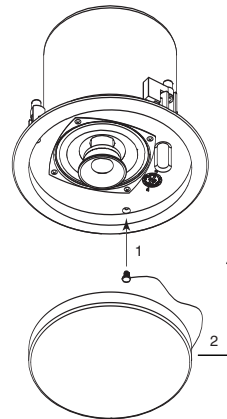

Figure 20: Attach the grille
Step 8: Attach the Grille (Figure 20)
First, install the grille's safety tether by pushing the grille fastener into the hole in the front of the baffle (see Figure 20). Second, press the grille into place until the front of the grille is flush with the rim of the baffle. Make sure the grille is securely seated to prevent it from vibrating loose.